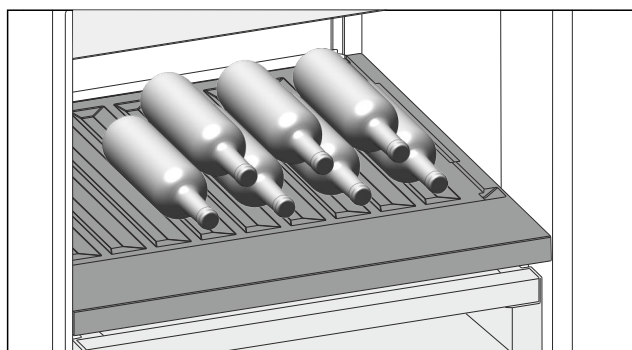

Fig. 206 Example illustration
- Place bottles in the back row with their bases against the back wall. (see Fig. 206)